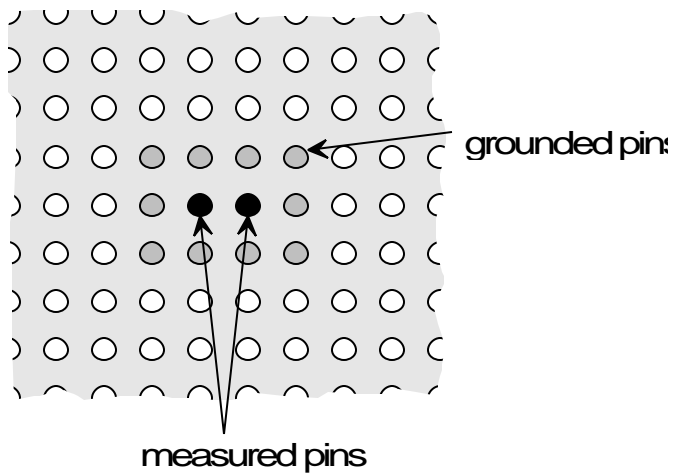

Figure 5 - Bandwidth measurement
1. The bandwidth for the 0.8MM BGA socket was determined from a loop-thru measurement on two adjacent pins. The nearest row of pins was grounded (see figure 5). The 1-dB bandwidth was 3.45 GHz, please see page 12 of the Appendix.